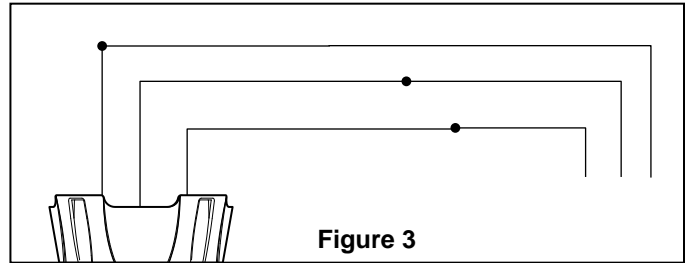

Figure 3
4. Connect the green grounding lead from the fan motor to the supply grounding conductor (this may be a bare wire or wire with green colored insulation). Securely connect wires with wire connectors supplied. (Figure 3)
8. Securely connect the white fan motor wire to the white supply (neutral) wire using wire connector supplied. Securely connect the black fan motor wire to the black supply wire using wire connector supplied. (Figure 3) After connections have been made, turn leads upward and carefully push leads into the outlet box, with the white and green leads on one side of the outlet box and the black lead on the other side of the outlet box. (Figure 5)
3. Using the rivets, rivet washers, and the rivet tool provided, install two rivets. The flat head of the rivet must be on the inside of the belt (the side touching the pulley), while the rivet washer is placed on the outside of the belt. (Figures 3, 4, & 5)